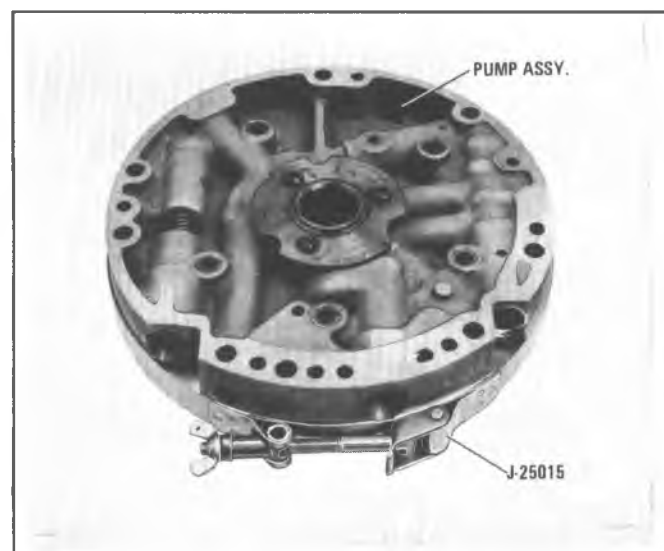

Figure 7A6-213 Aligning Pump Cover and Pump Body
3. Align the pump cover and pump body using J-25015 (Figure 7A6-213) and place bolt or screwdriver through pump to case bolt hole and bench.